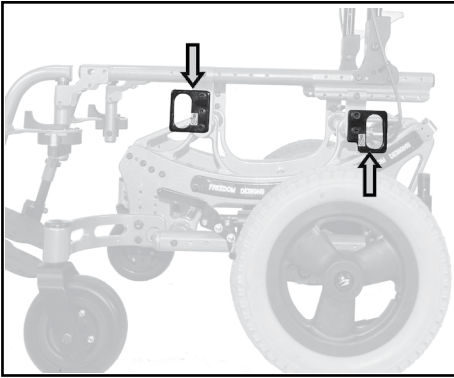

Figure 1 - Freedom P.R.D. CG
- Freedom **P.R.D. CG** Figure 1
5. The WTORS **must** be attached at each of the four securement points (see figures 1 - 7, page 8).